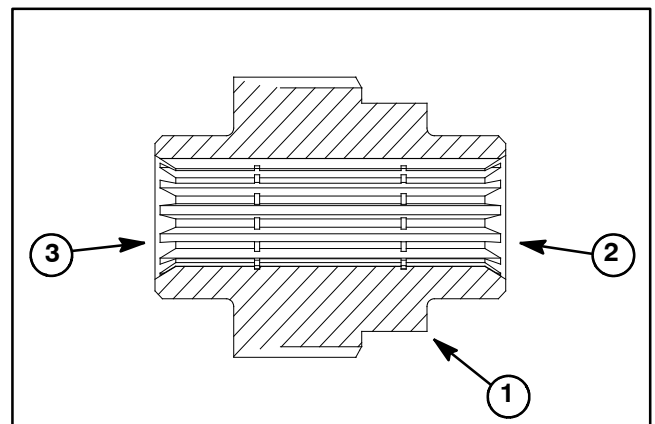

Figure 3
1. Install splined brake shaft (item 3) into brake assembly. **NOTE:** The stepped end of the splined brake shaft must be aligned toward the hydraulic wheel motor (Fig. 3).